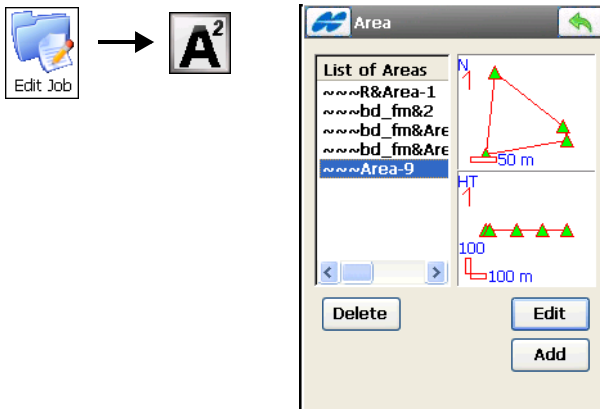

Figure 6-29. Select Area
Area is bound with a closed line. Line nodes (points) have the same code of area type to form an area boundary. To edit lineworks, tap **Edit Job ▶ Area**. The **Area** screen displays (Figure 6-29).
2. To delete the area from the list, tap **Delete** (Figure 6-29).